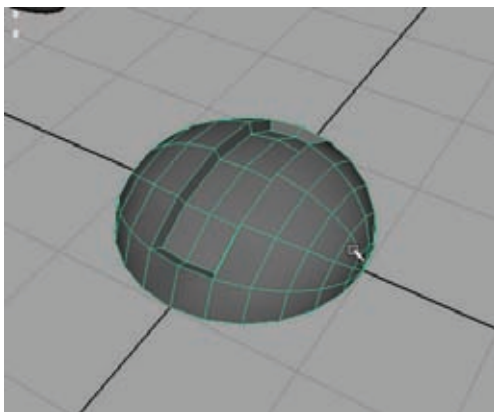

Figure 3.32
3. Flatten down the half sphere so it's not so rounded. Select a rectangle of faces from the side of the screw and extrude them inward like in Figure 3.32.